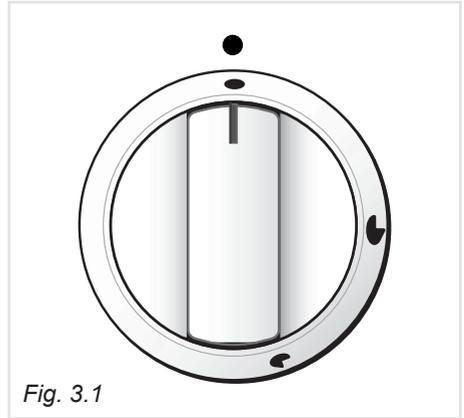
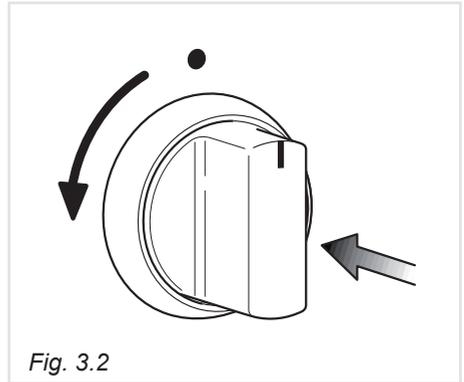

Fig. 3.1
Fig. 3.2
Each burner is controlled by a gas tap (fig. 3.1) assuring the opening and the closing of the gas supply.
1. Press in the corresponding knob and turn counter-clockwise (fig. 3.2 ) to the full flame position marked by the  (full on) symbol (fig. 3.1).